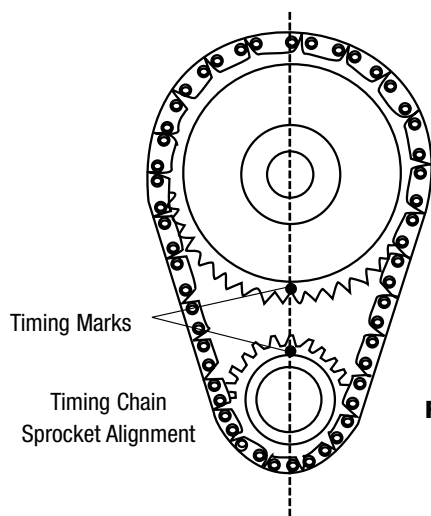

Figure 1
13. Rotate engine until timing marks are aligned as shown in Figure 1.
CAUTION: Use Edelbrock Performer-Link True Rolling Timing Chain and Gear Set #7820 or Accu-Drive gear drive set #7892. Do not use late model timing chain & gear sets that are designed in a retarded position and are not recommended for this camshaft installation. Edelbrock Timing Sets feature three keyways for specific timing selection. Use locking compound material on the bolt threads holding timing gear to cam. Torque to factory recommendations specified in motor repair manual. Install camshaft with timing marks lined up as recommended by factory specifications. See Figure 1. When using Performer-Plus Timing Chain and Gear Sets (7800 series) with Edelbrock cam and lifter kits, straight up timing alignment is achieved. If any other timing gear set is used, it is necessary to check cam position for correct timing alignment. This requires indexing the camshaft with a degree wheel to verify timing alignment. O.E.M. or non-Edelbrock timing gear sets are not recommended for use with Edelbrock camshafts.
After the cam is installed and timed correctly (see Figure 1), it will be necessary to check each pushrod for correct lifter pre-load.